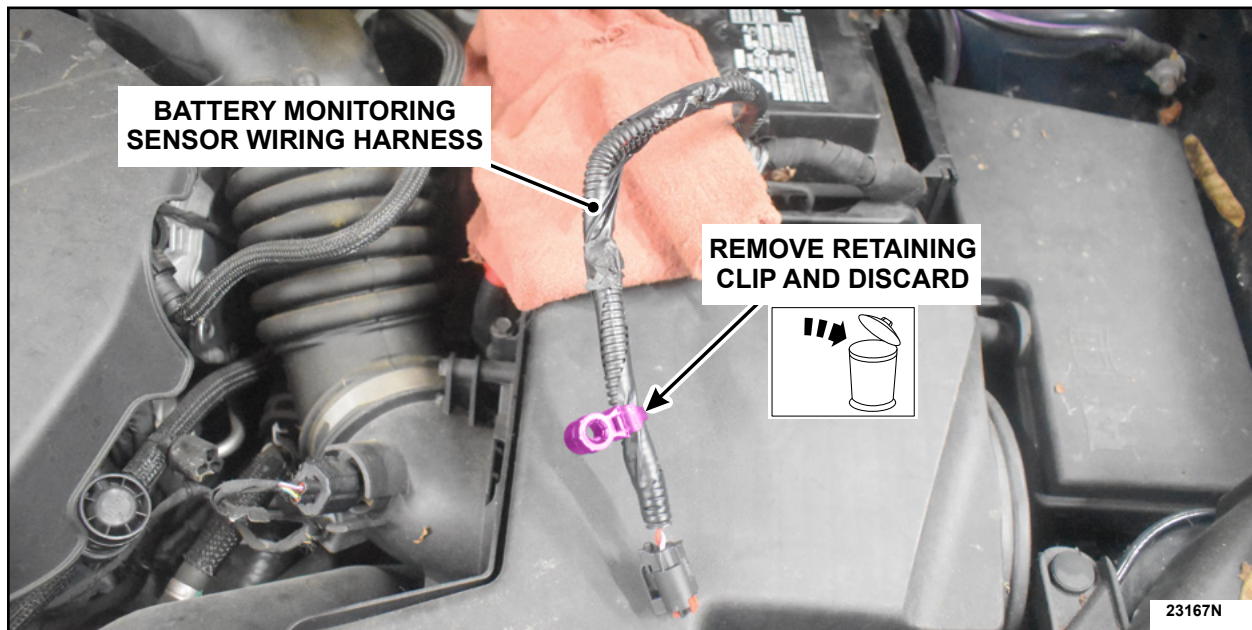

FIGURE 1
2. Remove and discard the wire harness retainer from the BMS wiring harness that was detached from battery hold-down bracket in the previous step. See Figure 1.